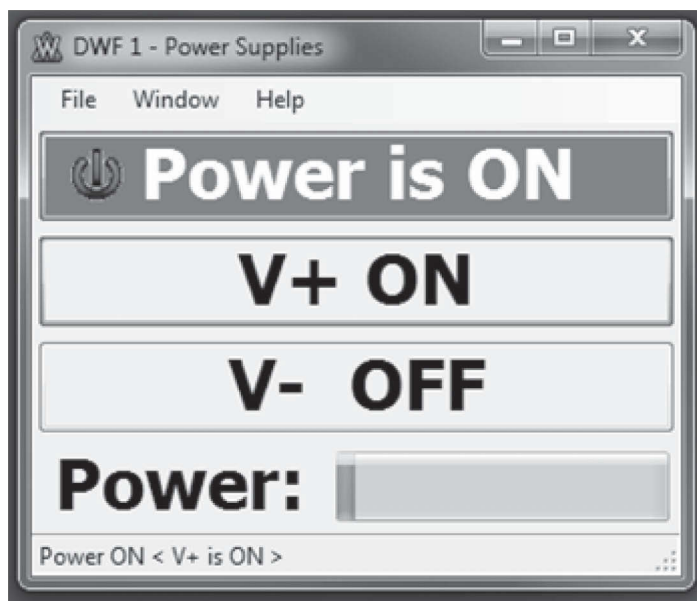

FIGURE 1.4
The Analog Discovery board has two fixed power supplies: (1) +5 V and (2) -5 V. If one clicks on the voltage button in the Main WaveForms window, the power supply window shown in Figure 1.4 appears. To turn on the power supply, click the Power Is OFF button. Another click on the same button turns the power supply off. One can click the V+ button to turn on the +5 V power supply. The -5 V source can be turned on by clicking the V- power supply button.